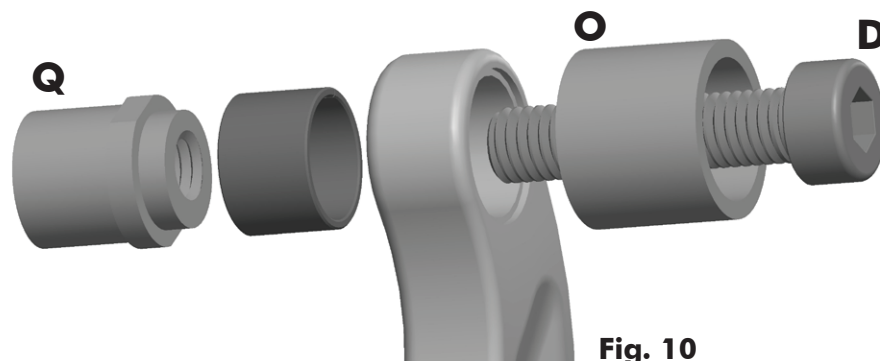

Fig. 10
5. To press fresh DU Bushings into the shock links orient the tools as seen in Fig. 10. The DU Press (M) should center itself inside the DU Bushing. Tighten the bolt until the Flange on the DU Press touches the link. Repeat for both left and right links.